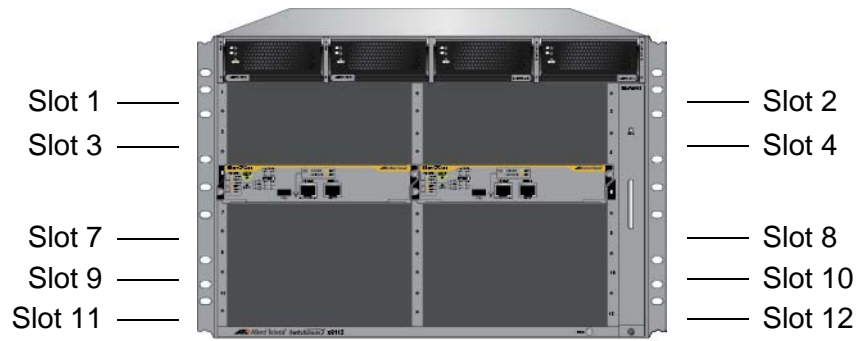

Figure 83. Slots 1 to 4 and 7 to 12 for the Ethernet Line Cards
1. Choose a slot in the chassis for the Ethernet line card. The Ethernet line cards can be installed in slots 1 to 4 and 7 to 12. The slots are shown in Figure 83.